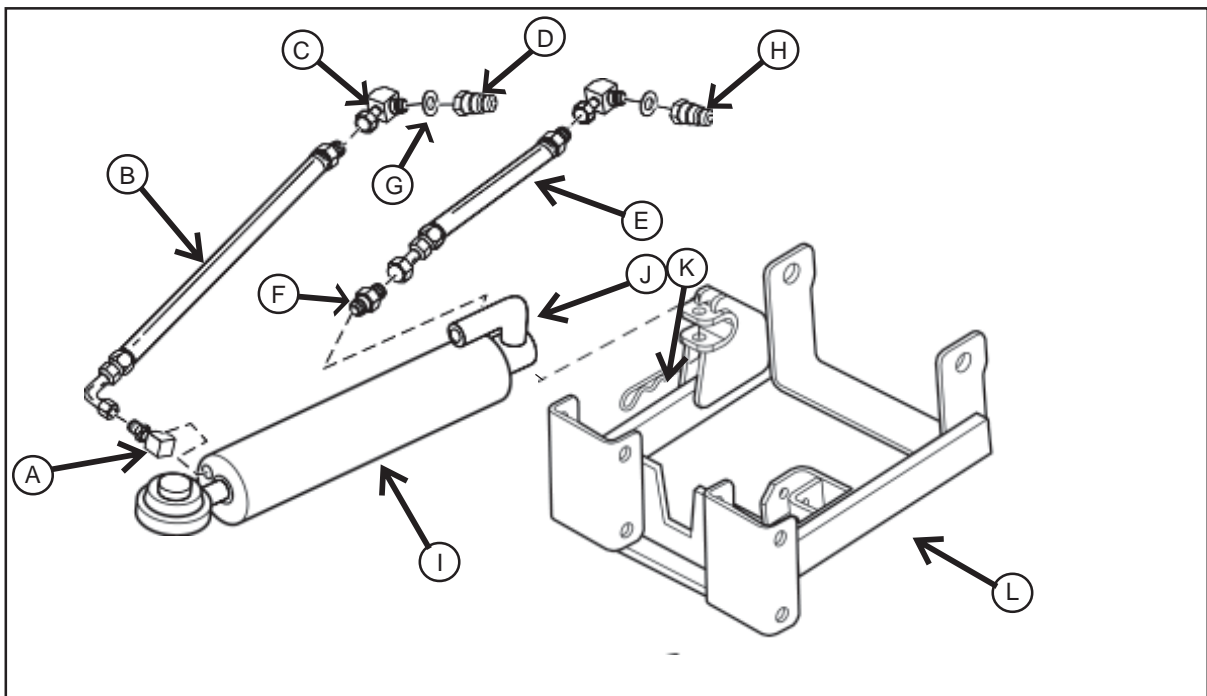

Figure 2. Cylinder/Hose Installation
2. Install hydraulic cylinder hoses and fittings. (figure 2)